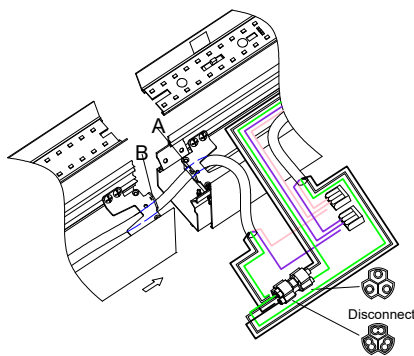

Fig. 17
3. Connect the electrical wires (refer to the wiring diagram), slide the fixtures and corner connectors together (A to B). Join the connection kit, centering it between the fixtures and corner connectors, and put the remaining screw in place. (Fig 17 & 18)